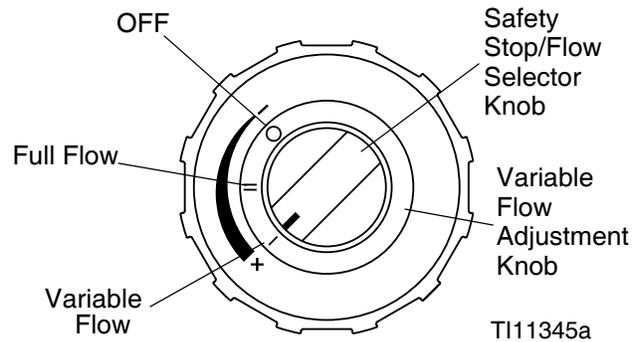

FIG. 25
1. Turn air valve (W) OFF.
2. Turn flow selector knob to variable flow position. See FIG. 25.
To spray a reduced flow pattern, push in and turn flow selector knob to variable flow position. See FIG. 25.
To return to a full flow pattern, push in and turn flow selector knob to full flow position. See FIG. 25.
NOTE: The variable flow adjustment knob cannot be adjusted when the flow selector knob is in the safety stop position. See FIG. 25.
4. Turn air valve ON, and open fluid valves. Verify that flow selector knob is set to the variable flow position. See FIG. 25.